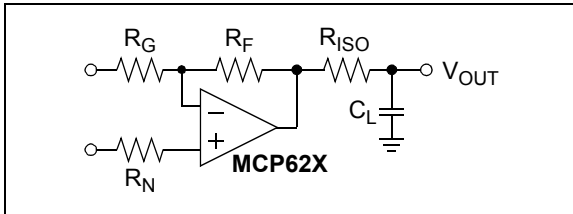

FIGURE 4-9: Output Resistor, R_{ISO} Stabilizes Large Capacitive Loads.
- Limit I_{OUT} using R_{ISO} (see **Figure 4-9**)
When driving large capacitive loads with these op amps (e.g., > 10 pF when $G = +1$), a small series resistor at the output (R_{ISO} in Figure 4-9) improves the feedback loop's phase margin (stability) by making the output load resistive at higher frequencies. The bandwidth will be generally lower than the bandwidth with no capacitive load.